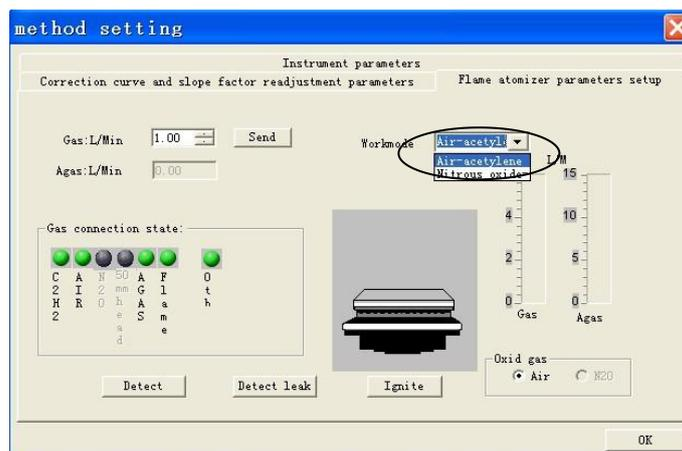
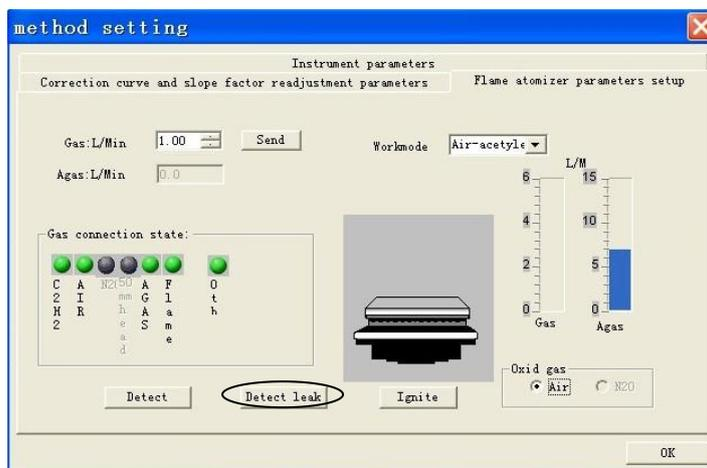

Figure 4-41
Figure 4-42
3. Two modes are available, "Air-acetylene", as shown in Figure 4-41. The mode must be determined before ignition.
4. For gas connection state, the green indicators mean the normal state, and red indicators mean abnormality, as shown in Figure 4-41. A prompt dialog will appear if abnormality exists.
- Press "Detect leakage" to check the gas connection, as shown in Figure 4-42. After detection, press "Stop detection" to return to the screen as shown in Figure 4-41. See details in "Ignition Operation".